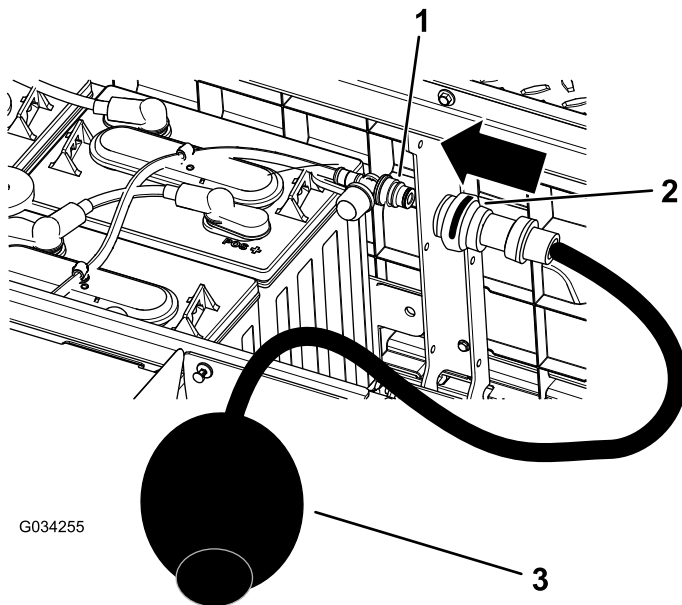

Figure 38
- Connect your Toro water hand pump to the water-fill port (Figure 38).